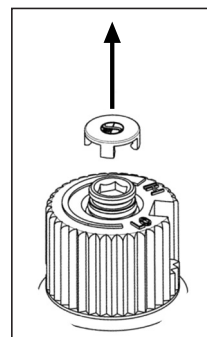

Figure 12: Removing valve cap.
- c) Remove the black protection cap from the HI/LO knob by hand shown in Figure 12.
- h) Re-attach the black protection cap that was removed in step "c)". (Figure 12).